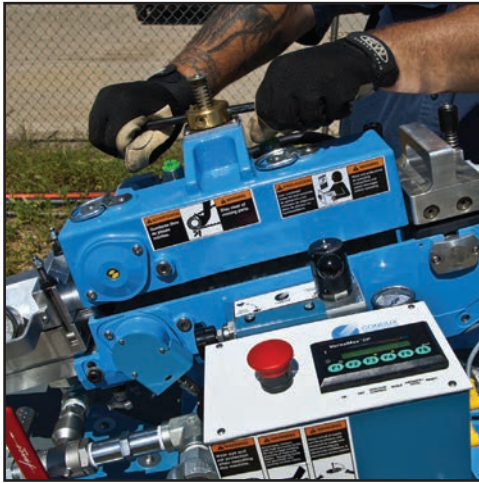

Figure 57. Lower Tractor Drive Cover With Turn Crank
1. Lower Tractor Drive Cover with turn crank until the cover reaches the stopper-bushing. The stopper-bushing will prevent the tractor cover from being clamped too tightly on the cable (Figure 57).